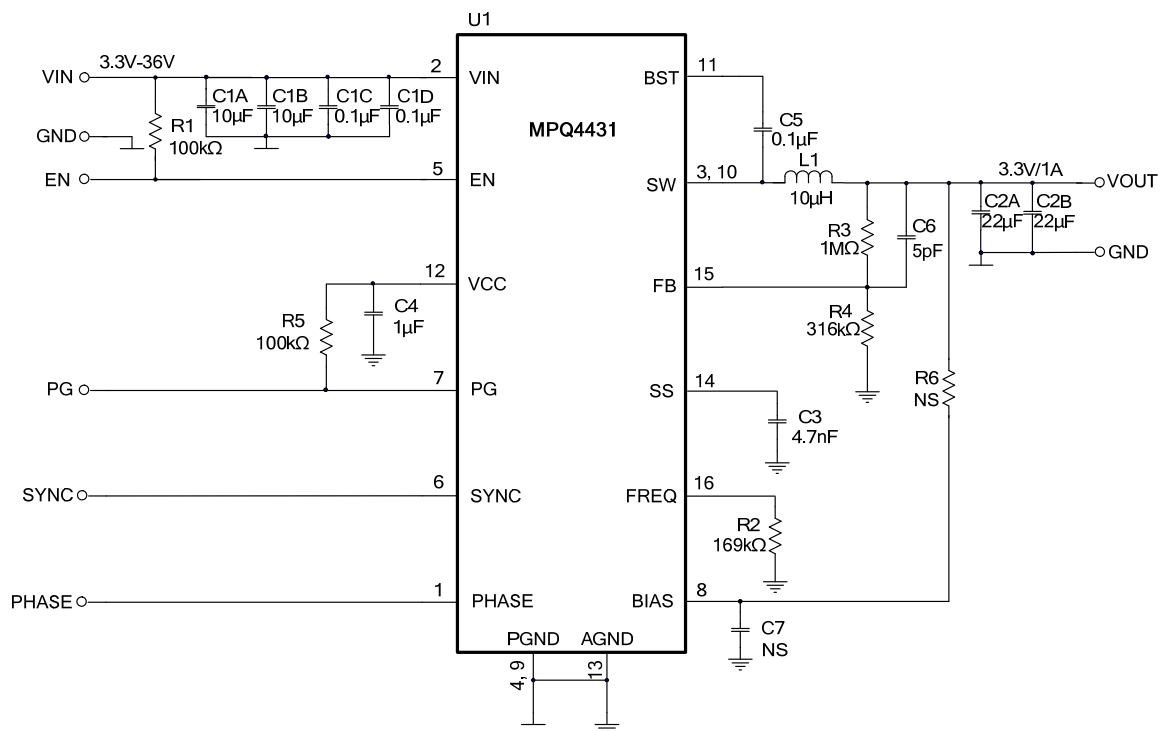

Figure 9: $V_{OUT} = 3.3V$, $I_{OUT} = 1A$, $F_{sw} = 500kHz$
8) The recommended PCB layout is based on Figure 9.